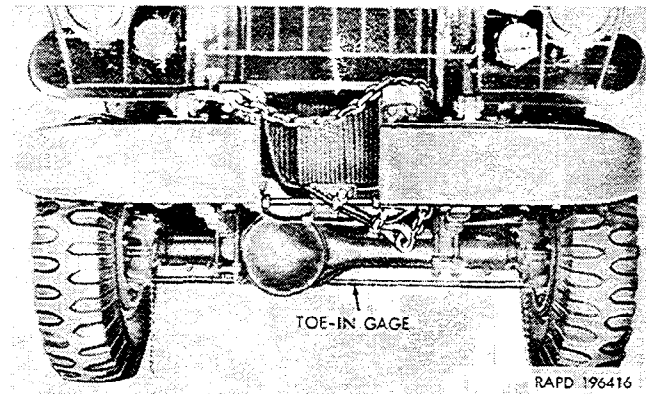

Figure 2-132. Measuring front wheel toe-in.
(1) Check both front springs for sagged or broken leaves and loose spring clip U bolts. Make certain that the springs are positioned properly on the axle. Tighten spring clip U bolt nuts or replace springs, as required.
(2) Check hub bearings for looseness. If looseness is evident, notify direct support maintenance personnel.
(3) Check the flange bearings for looseness. If looseness is evident, notify direct support maintenance personnel.
(4) Check wheel and tire runout. If runout exceeds three-eighths of an inch replace the wheel (para 2-142).
(5) Inflate all tires to 40 psi. Tread on both front tires should be approximately the same. Replace badly worn tires (para 2-144).
(6) If correction of camber, caster, and pivot angle, requires alining equipment, notify ordnance maintenance personnel.
c. *Check Toe-In (Fig. 2-132).* Since incorrect toe-in may be caused by worn, damaged, or incorrectly adjusted wheel bearings, damaged or loose steering knuckle parts, or a bent tie rod, make